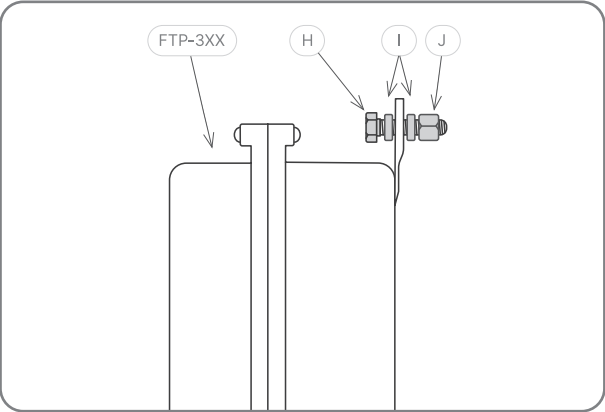
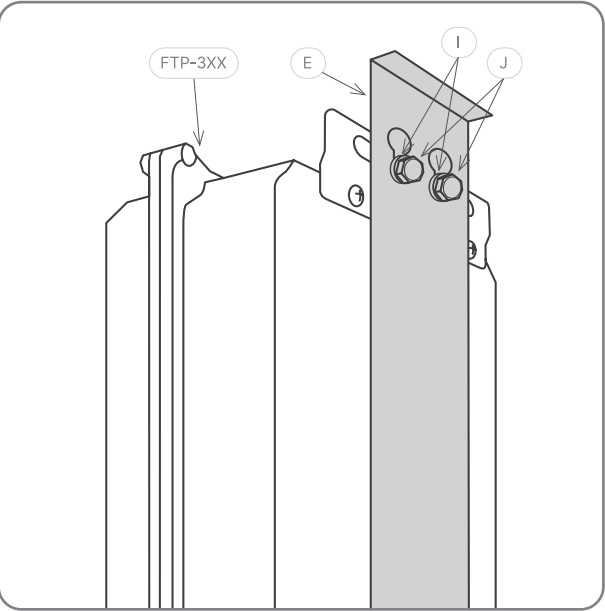

Figure 10.
Figure 11.
For installation of a product in the FTP-3XX series, refer to Figure 10 and Figure 11.
1. Assemble (H), (I) and (J) according to Figure 10. Tighten (J) loosely.
2. Install the FTP-3XX in the keyholes on the Assembly Bracket (E) according to Figure 11.
3. Tighten (J).